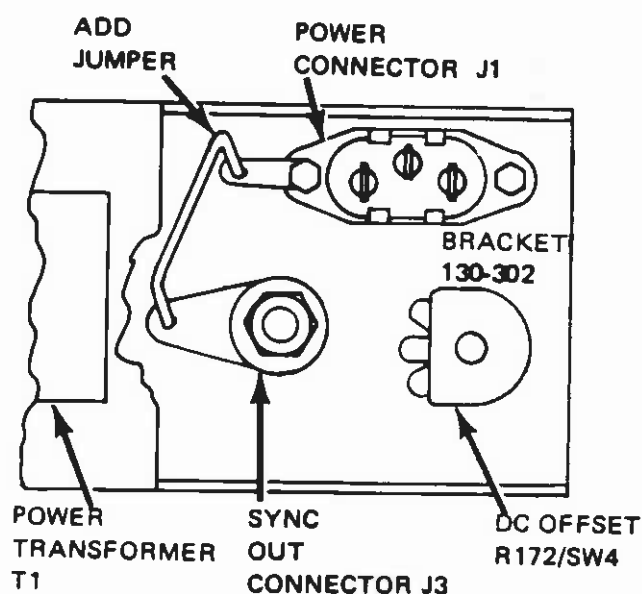

Figure 2-4. Common Ground Connection Diagram
3. Solder a jumper wire between the ground lugs (green wires) of the SYNC OUT connector and the power connector (Figure 2-4).